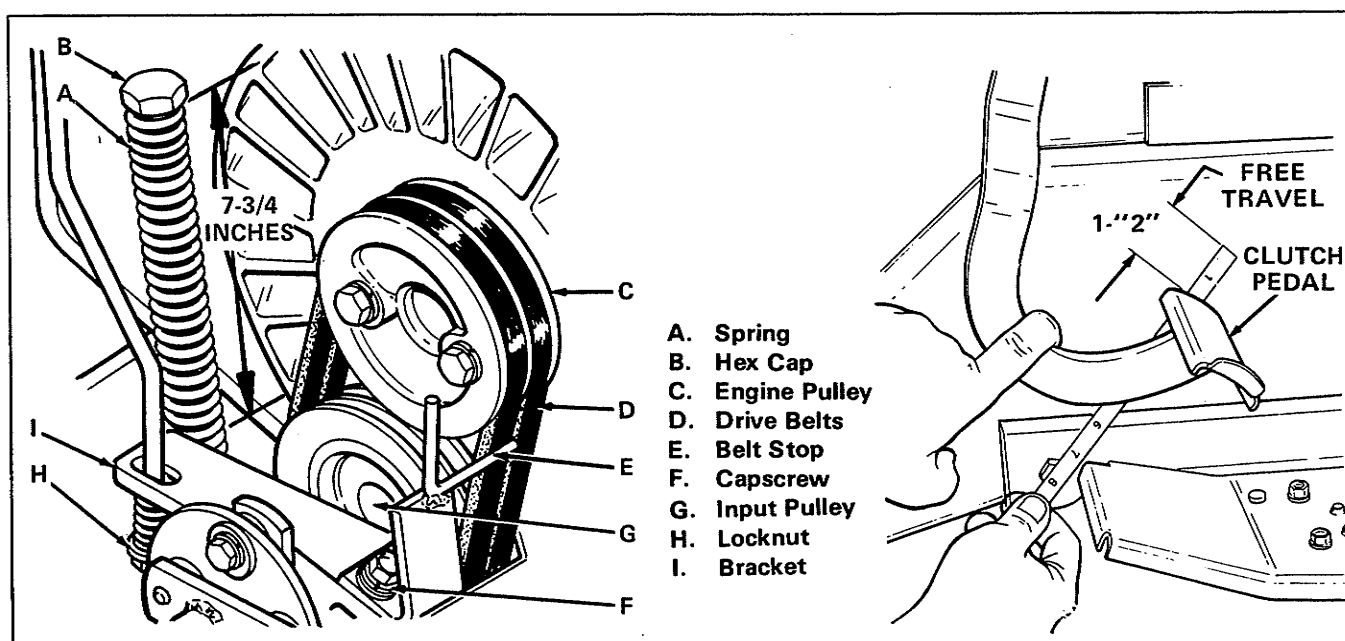

Figure 5. Clutch Pedal Free Travel Adjustment and Clutch Belt Tension
ADJUSTMENT (Figure 5)**
2. Turn the locknut clockwise to decrease free travel or counterclockwise to increase free travel (Item H in Figure 5).
**CLUTCH BELT TENSION (Figure 5)**